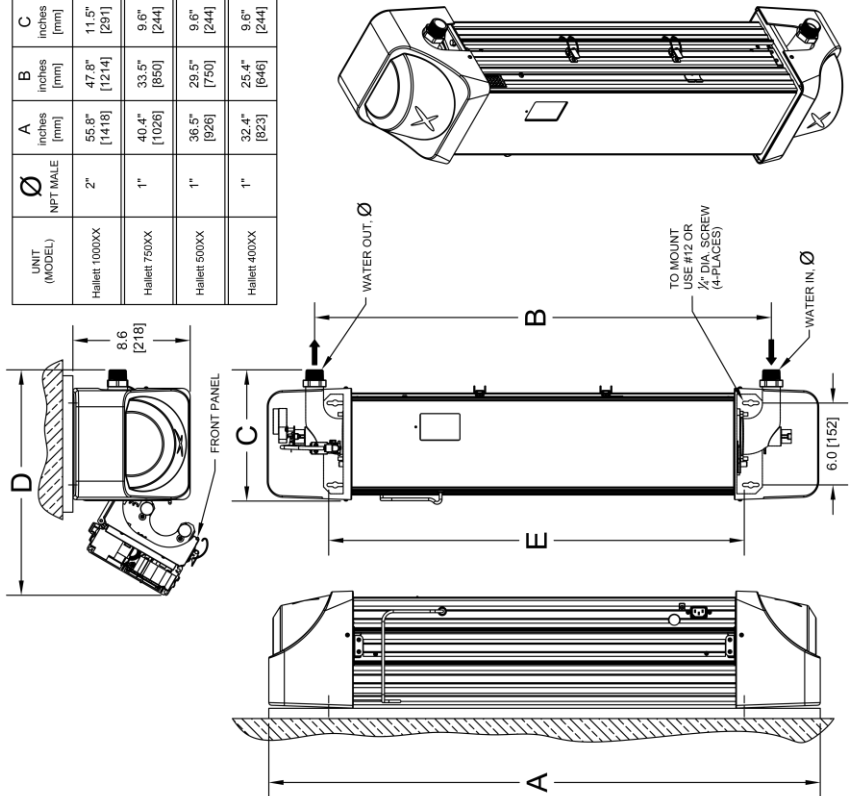

Figure 4.1
**Warning** - The unit must be positioned vertically on a solid wall (**the performance of the system will be adversely affected if mounted horizontally or is subjected to vibrations**). The installation of the unit (see Figures 4.1 through 4.4) should be done in compliance with all applicable federal, state/provincial, and local regulations. For units in Australia & New Zealand, installation to be in accordance with the Plumbing Code of Australia (PCA). We recommend that the unit be installed by a qualified service technician. Failure to install the system properly may result in property damage (leaks/flooding) or personal injury (electrical shock) and will void warranty.
**Step 2:** The UV unit has keyhole slots for convenient mounting – use all four mounts. **Do not mount the unit directly to an outside wall; mount on plywood or shims – See Figure 4.1.** Remove the top and bottom covers of the unit to make the mounting holes accessible. Mounting hole templates are provided to simplify installation.